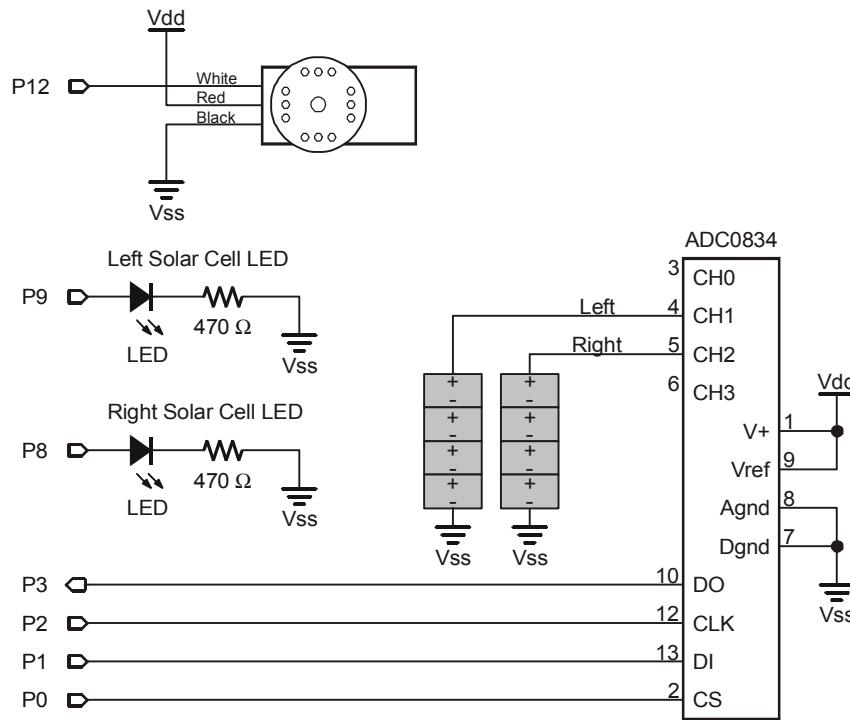

Figure 4-15: Sun Tracker Schematic
- ✓ Add the servo to your Dueling Solar Cells circuit as shown by the schematic in Figure 4-15.